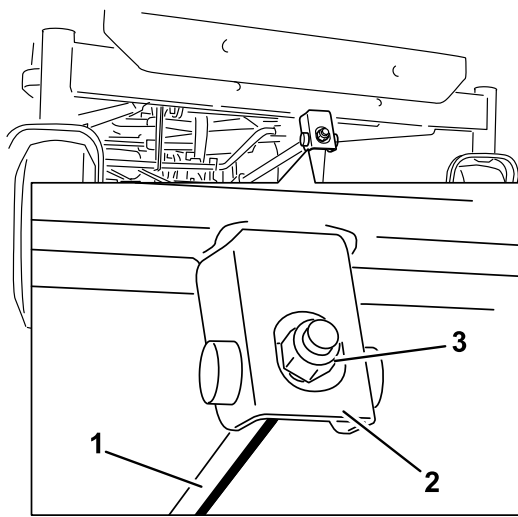

**Figure 55**
- Carefully rotate the blades so they are facing front to rear (Figure 55).